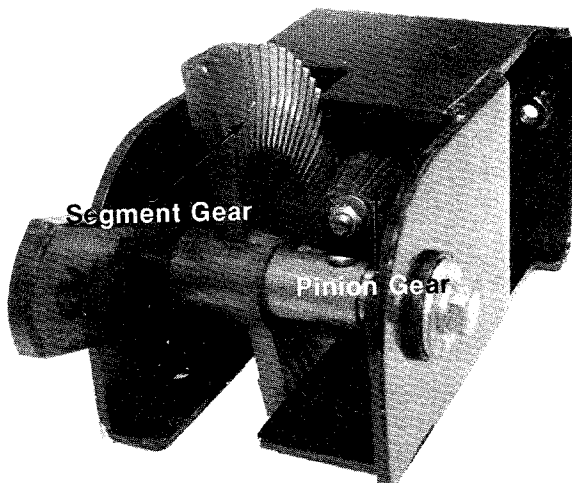

FIGURE 18.
**Steering Gears**—Wipe off the old grease and dirt. After every 25 hours of operation place an automotive multi-purpose grease in the teeth of the segment and pinion gears. (See figure 18.)